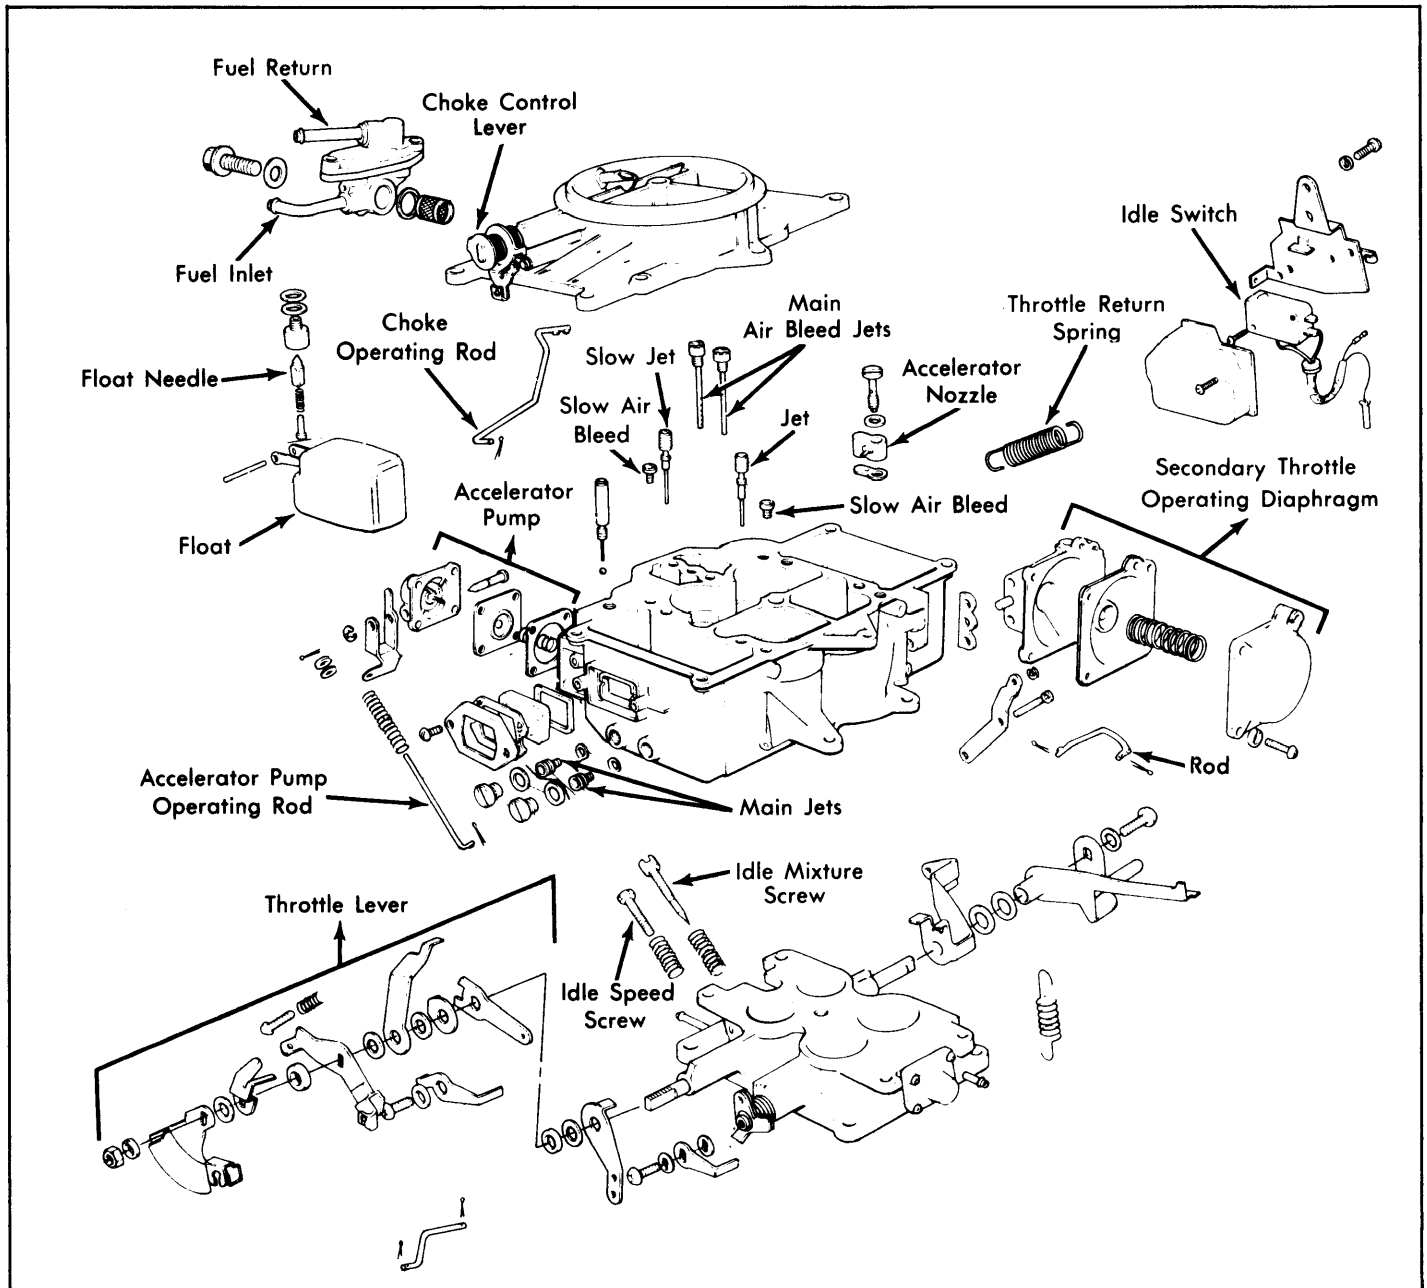

Fig. 9: Exploded View Of Zenith-Stromberg 4-Barrel Carburetor (RX-2 & RX-3)
- 2) From air horn, disconnect choke connecting rod by removing cotter pin, washer, and spring. Remove accelerator pump connecting rod by removing cotter pin. See Figs. 9 and 10.